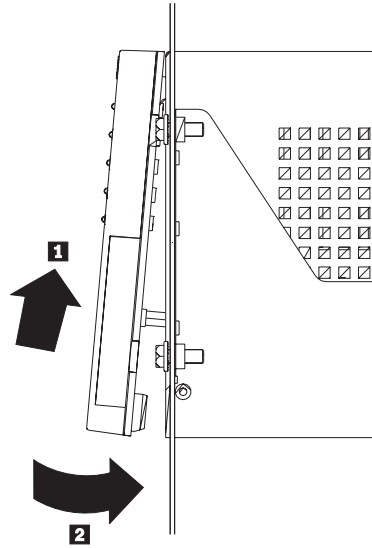

Figure 10. Replacing the cover on the controller unit
8. Replace the front cover (see Figure 10 on page 15).